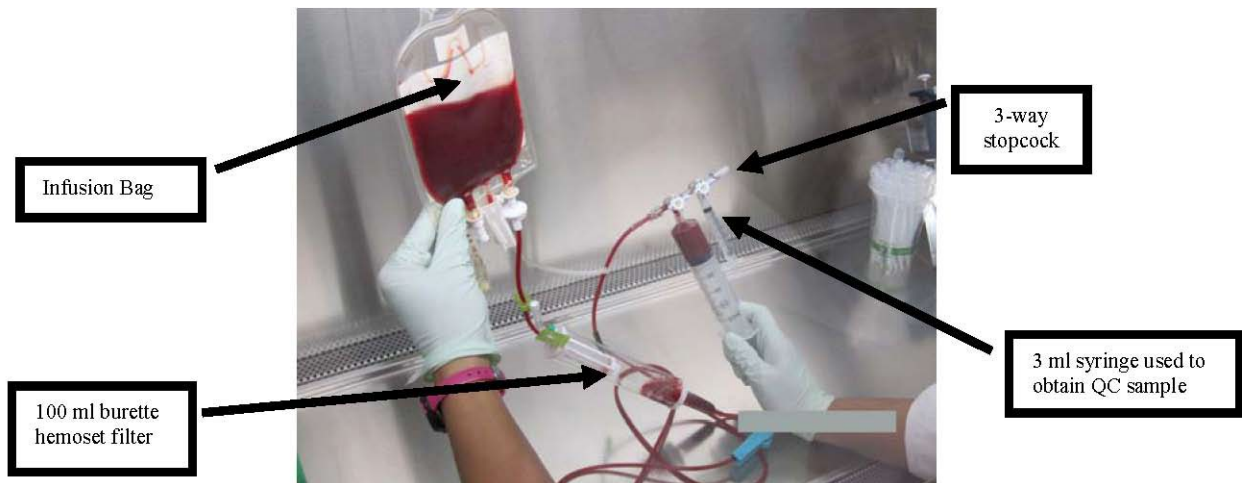

Figure 14
- e. Attach a 3-way stopcock to the end of the 100 mL burette hemoset filter line. The stopcock will accommodate a 3 mL syringe (for QC tests) and 60 mL syringe (see Figure 14).